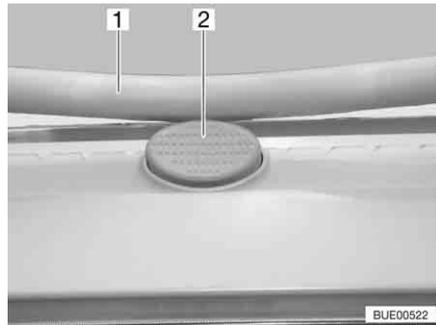

Fig. 65 Safety knob on the Heki skylight
- Press the safety knob (Fig. 65,2) and pull the bar (Fig. 65,1) down with both hands.
- Push the bar upwards with both hands until it is above the safety knob (Fig. 65,2).